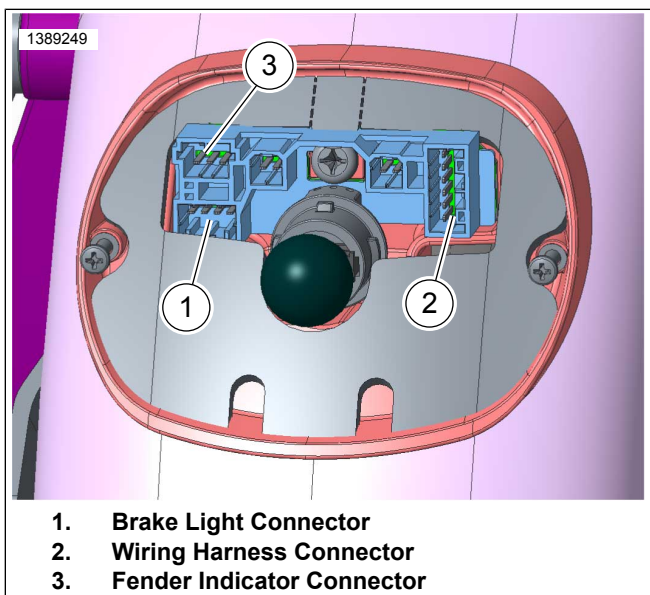

Figure 2-60. Fender Rear Light Holder
7. See Figure 2-60. Connect harness to fender rear light holder (2). Secure cable on inside of fender using tabs fitted. Ensure cable is clear of wheel.